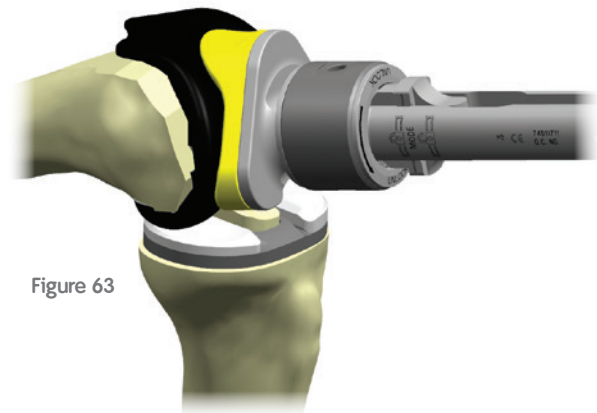

Figure 63
- 6 Place the Femoral Component onto the femur by positioning the proximal edge of the posterior condyles at the distal end of the posterior resection and rotating the Femoral Component to align the tips of the lugs to the prepared lug holes in the femur (Figure 63).